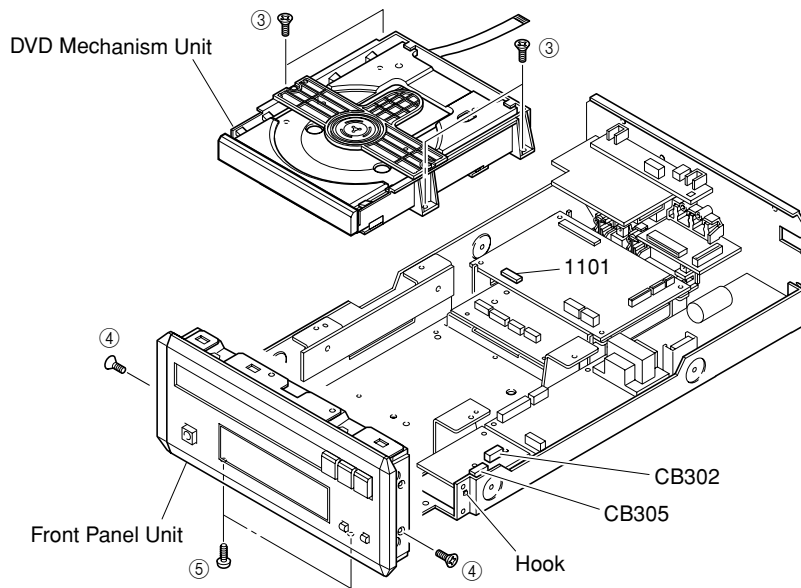

Fig. 2
- Remove 4 screws (③). (Fig. 2)
- Remove a connectors (1101, CB302, CB305). (Fig. 2)
- Remove 2 screws (④), 2 screws (⑤). (Fig. 2)
- Release 2 hooks and remove the Front Panel Unit by pulling it forward. (Fig. 2)